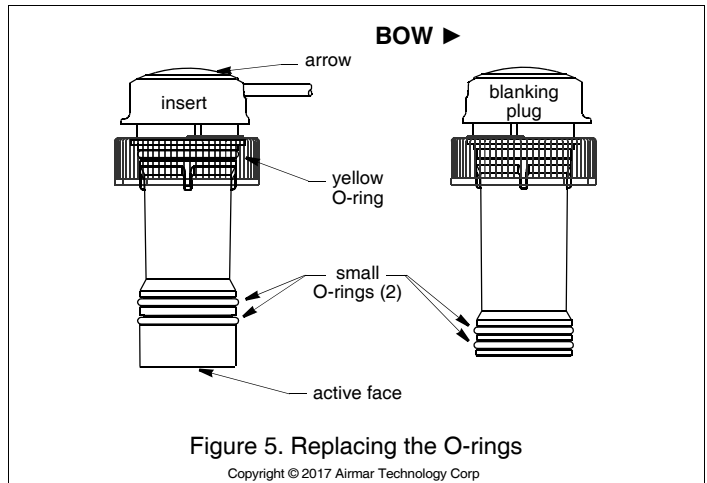

Figure 5. Replacing the O-rings
1. The O-rings must be intact and well lubricated to make a watertight seal. On the blanking plug, inspect the O-rings (replace if necessary) and lubricate them with the silicone lubricant supplied or petroleum jelly (Figure 5).
Aquatic growth will seriously affect the performance of the ultrasonic insert. Clean the active face with a dull putty knife, being careful to avoid scratching the surface (Figure 5). If fouling is severe, lightly wet sand the active face with fine grade (#320) wet/dry paper.
O-rings must be free of abrasions and cuts to ensure a watertight seal. Install the o-rings on the ultrasonic insert as shown (Figure 5). The remaining o-rings are placed in similar positions on the blanking plug.